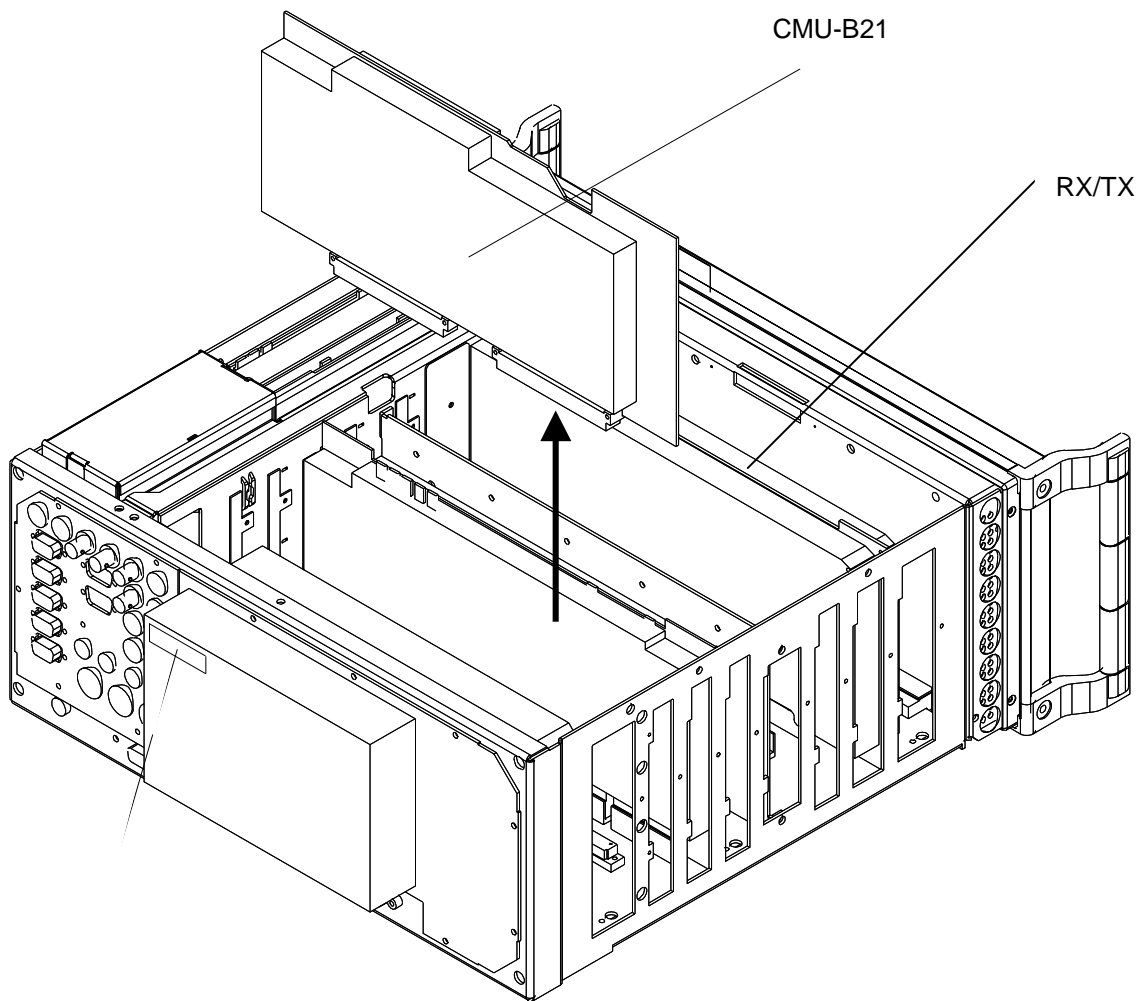

Fig. 3
- Remove module CMU-B21 in the seventh slot seen from the front (Fig. 3).